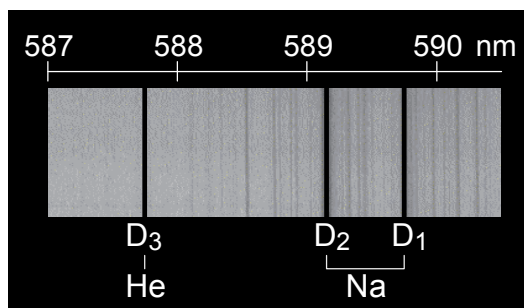

Figure 1. Spectral lines around 588 nm
Ramsay and Clève discovered helium in cleveite (a mineral consisting of uranium oxide and oxides of lead, thorium, and rare earths; an impure variety of uraninite) independently and virtually simultaneously in 1895. The gas extracted from the rock showed a unique spectroscopic line at around 588 nm (indicated by D3 in Figure 1), which was first observed in the spectrum of solar prominence during a total eclipse in 1868, near the well-known D1 and D2 lines of sodium.
- c) Calculate the energy  $E$  [J] of a photon with the wavelength of the D3 line of helium shown in Figure 1.
According to Figure 1, the wavelength of the D3 line is approximately 587.7 nm (no punishment if 587.8 or 588 is used).